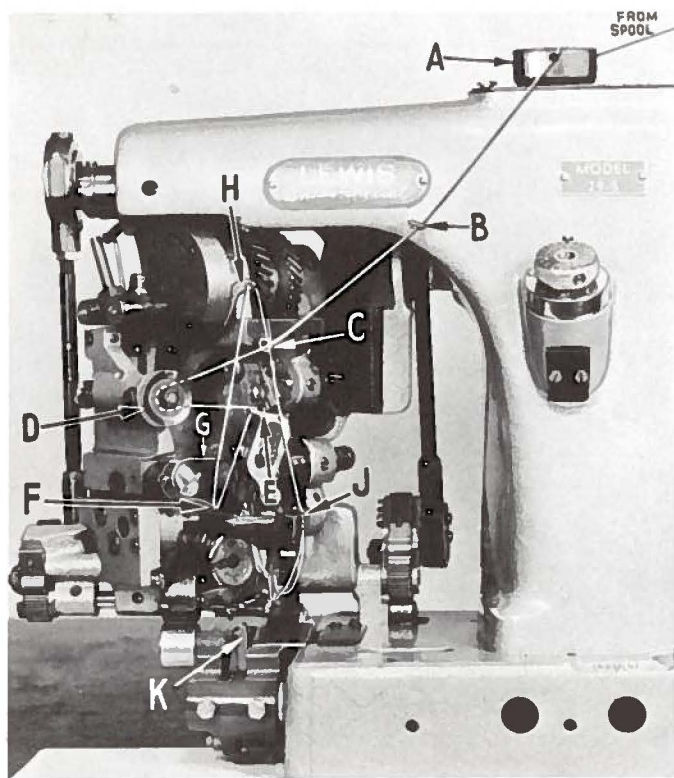
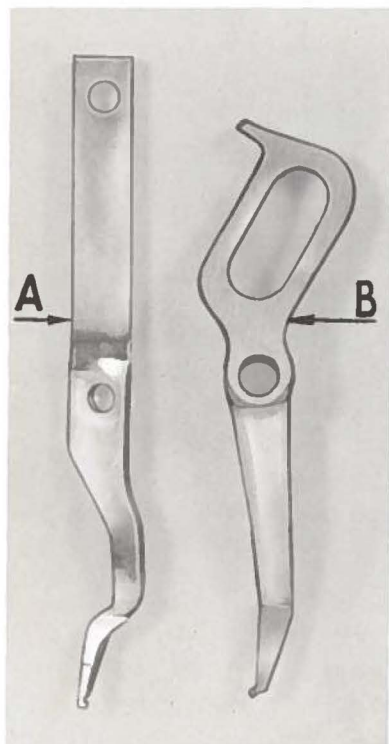
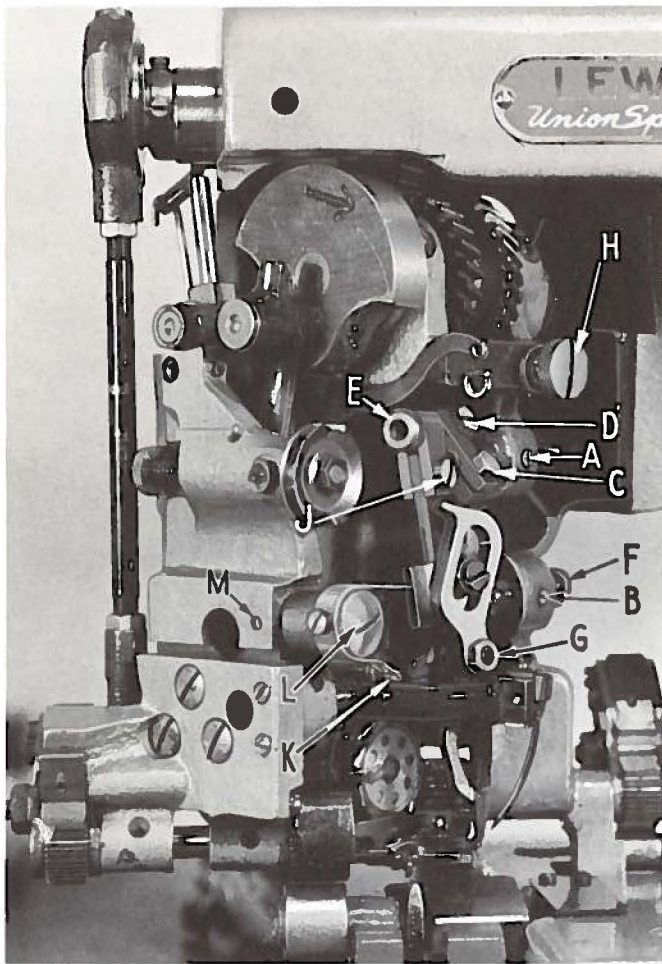

Fig. 1
Fig. 12
Fig. 13
To protect the machine from rusting while in transit, all parts are covered with vaseline, which must be carefully wiped off before the machine is put in operation. Take off the aluminum head cover by loosening thumb screw (H, Fig. 13). To remove this cover the take-up (H, Fig. 1) must be at its lowest point. Use gasoline or petrol to remove the grease from the hook and bobbin case, so as to allow the thread to pass over the hook freely. Also wipe off foot, needle and other exposed parts.
To thread the machine, turn hand-wheel in operating direction, until the take-up lever (H, Fig. 1) is in highest position, and thread in accordance with threading diagram (Fig. 1).
After the spool has been placed in position, lift top oil pad and pass spool thread through thread hole in rear of the oil pad box (A, Fig. 1), located on top of the machine. Now, pass thread through slotted hole in front end of box and place top oil pad on top of thread. Then thread through eyelet (B) on front of arm and eyelet (C) on head, passing thread under take-up lever. Thread around tension disc (D) under the pin, which serves to keep the thread permanently in position. Pass the thread down through eyelet (E) and up through controller spring (F) and eyelet (G). Now pass thread through the take-up lever (H) from left to right and down through needle clamp guide (J). Next, thread the needle from the under or groove side of the needle to the top.
In order to remove or exchange presser feet on all Lewis lockstitch models, turn handwheel until the plunger (K, Fig. 1) is at the lowest point. (The plunger is that part which serves to raise the material up through the hole in the presser foot.)
The purpose of the looper (A, Fig. 12) and spreader (B) is to form the cross-stitch or overcasting stitch. When properly adjusted, the points of the looper staff and spreader will move freely, without friction or interference with the foot, the plunger, the bobbin case retainer or needle, and stitches will be correctly formed.
If the looper points strike against the foot, move the entire looper mechanism either to the right or to the left, or forward and back, which is accomplished by loosening set screws (A and B, Fig. 13). The looper must move freely and not strike against any part of the foot. Turn handwheel slowly when making adjustment to guard against breaking the looper point or cramping the parts. When loopers are properly set, tighten set screws.
If looper and spreader are adjusted too low, the machine will break the looper points and the machine will skip stitches. To correct this condition, loosen looper head block clamp screw (C, Fig. 13) and raise the entire looper mechanism as required.
If looper and spreader are set too high, skipping of stitches will also result. To correct this condition, loosen screw (C, Fig. 13) and lower the looper mechanism as required. Retighten screw.
In order to provide sufficient clearance for removing looper staff (A, Fig. 12) it is necessary to take out the needle, loosen screw (D, Fig. 13), remove pin (E) and remove screw (F). You may now extract the looper spreader. To remove the looper staff, remove nut (G) and screw (J) and slide looper staff out. Reassemble the various parts in reverse order as per above instructions.
If machine skips stitches, see that there is sufficient tension on the thread controller spring (K, Fig. 13) to carry all the slack thread when the looper and spreader are at their lowest point. This spring may be tightened by turning stud (L) to the right which holds thread controller spring in position. Should the thread controller spring become worn out it may be replaced by loosening the small set screw (M, Fig. 13) and removing the stud and thread controller spring.